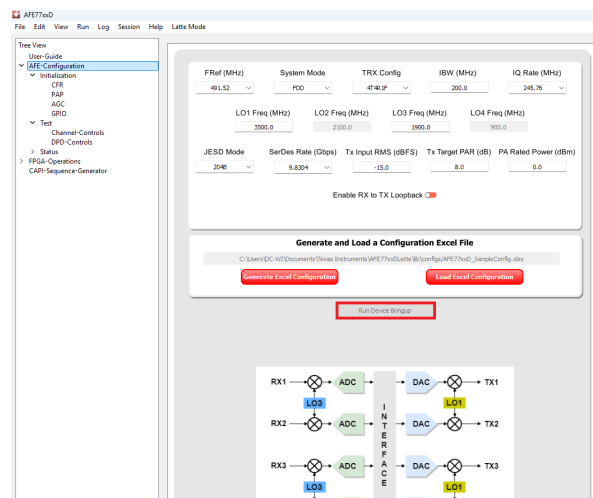

Figure 3-11. Execute Device Configuration
- After that, under *Hardware Connection*, click the refresh GUI button to see a message on the log window saying “Refreshed GUI”. Then click *Device Bringup* to start the bringup for the device. For proper navigation, see Figure 3-11.